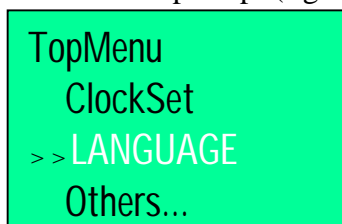

Fig. 2.20
- Position the **LANGUAGE** option next to the prompt (figure 2.20)